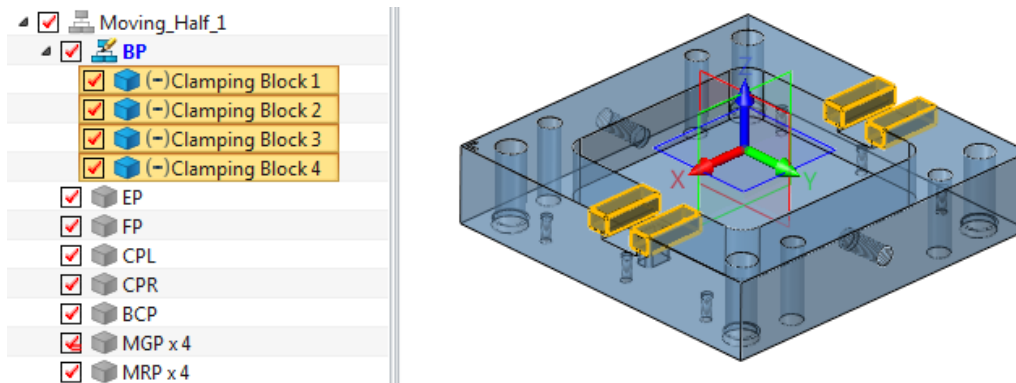

Figure 164 Extract Another Three Blocks
STEP 14 Extract other three clamping blocks as other three components with the same operations. Final result shows as Figure 164.